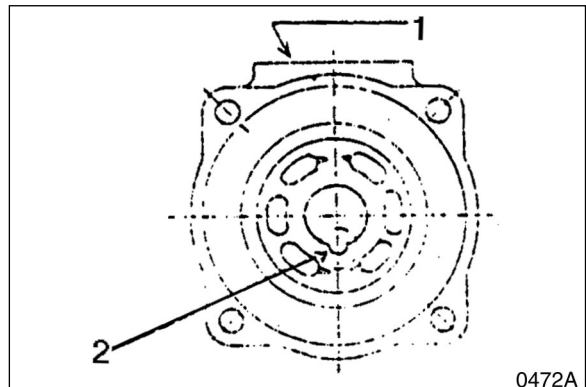

Figure 43
17. Assemble valve plate (131), O-ring and upper valve casing (303). Refer to assembly that shows "R" part (2, Figure 43) of the valve plate turned away from mounting flanges (1) on side of valve plate. Lightly grease O-ring to help keep it in place during assembly.